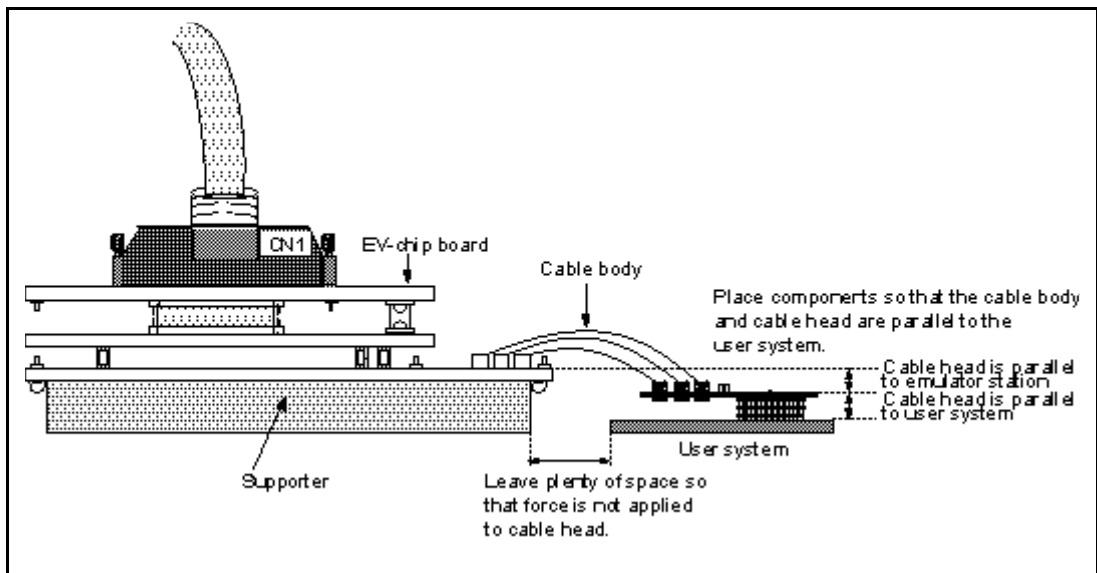

Figure 11 User System Interface Cable Location Example
7. While the EV-chip is connected to the user system interface cable, force must not applied to the cable head. Place the EV-chip, user system interface cable, and user system as shown in figure 11.